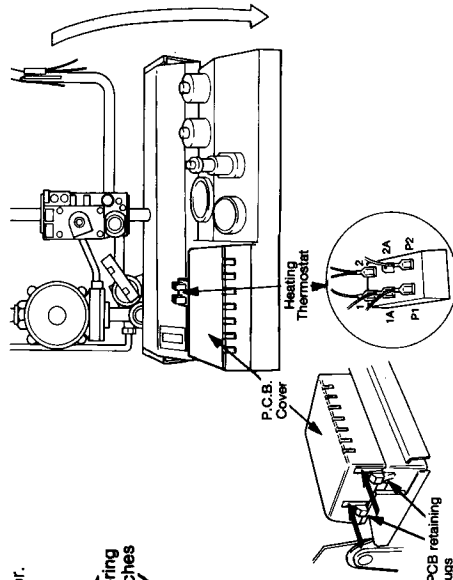

Fig. 39
Refer to fig. 39
8.18.20 Press in the sides of the printed circuit board cover (fig. 39) to release retaining clips and lift cover off.
Remove wire on terminal No. 1 of thermostat and replace on terminal No 1A (see fig. 39).